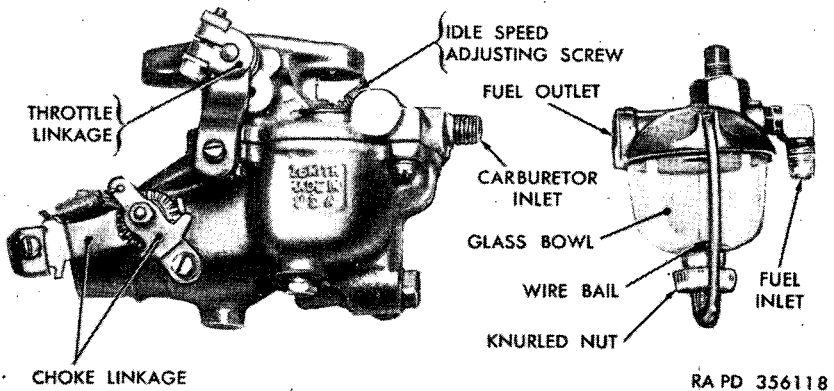

Figure 313. Auxiliary engine carburetor and fuel filter.
e. CLEAN FUEL FILTER BOWL. Loosen the knurled nut and swing the wire bail (fig. 313) to one side. Remove the glass bowl and clean thoroughly. Fill the bowl with gasoline and install.